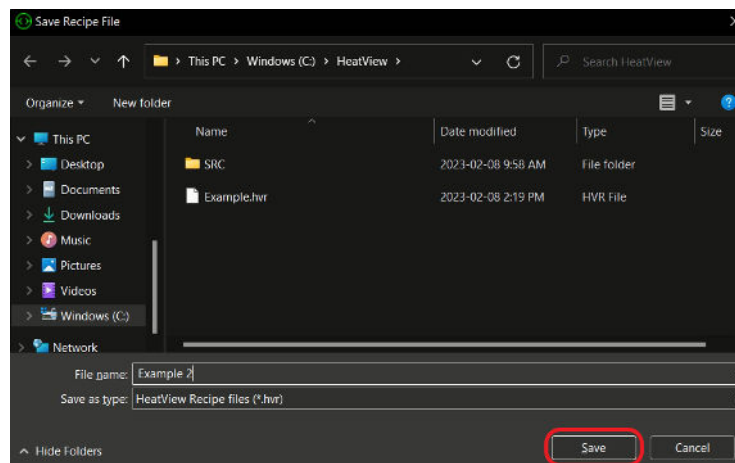

Figure 86: Recipe Editor – Recipe file save location
2. In the 'File Explorer' window that opened you can choose where to save the recipe file and name it whatever you want. The default location that opens when clicking this button is the HEAT VIEW software install directory, however you can save them anywhere that is convenient for you. Recipes files will always be ".HVR" format. Click on the 'Save' button – highlighted in Figure 86 below – to complete this process.